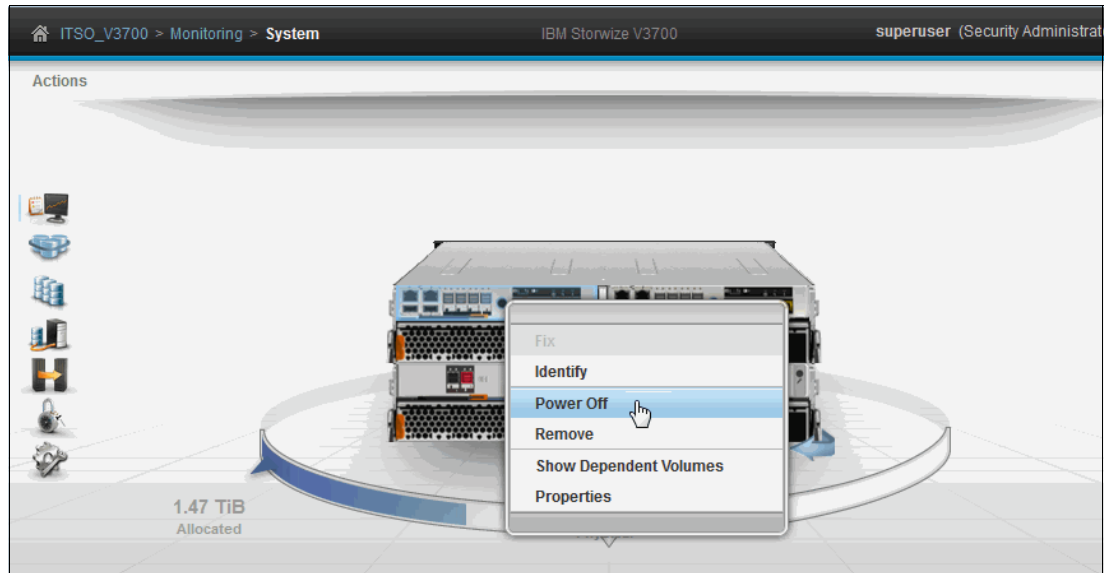

Figure 11-80 Powering off a canister
- d. Select Power Off, as shown in Figure 11-80.